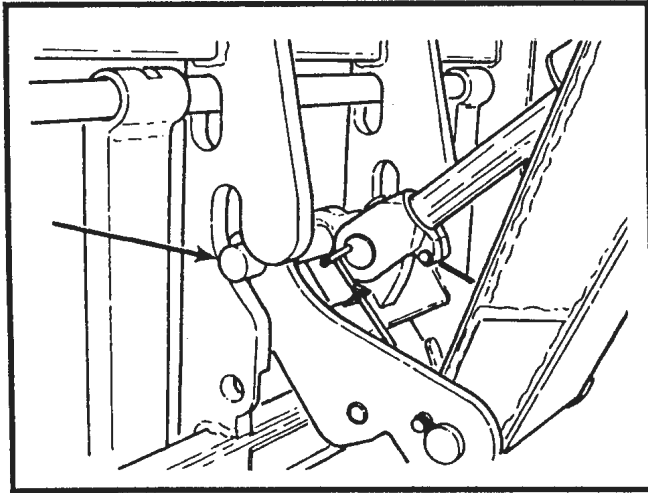

Figure 15-3. Disengaging upper quick-attach mounting pins.
3. Move the Tilt Control Lever forward as if tilting the carriage forks down slightly. Then move the Boom Control Lever forward to lower the boom until the quick-attach apron's upper mounting pins have moved downward and out of the slots on the carriage. Refer to Figure 15-3.